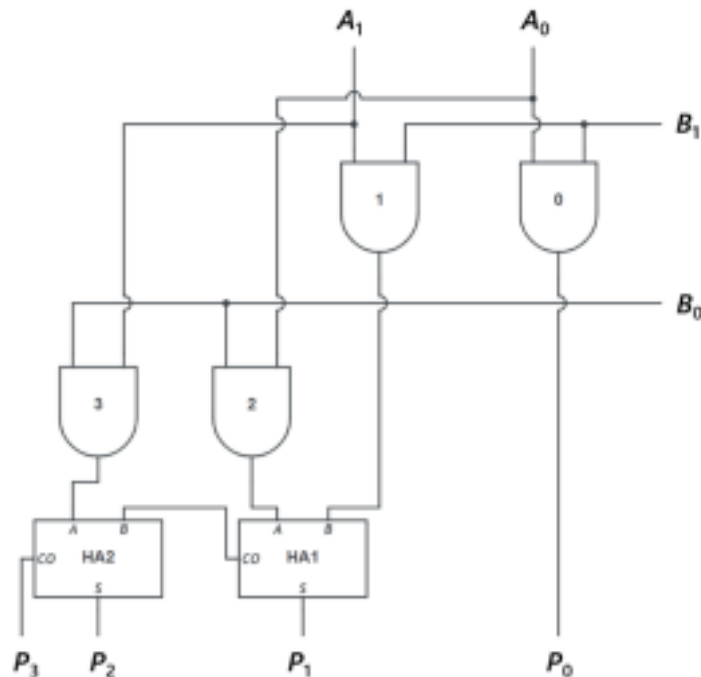

Figure 1 Logic diagram of a 2-bit multiplier circuit using half adders
The logic circuit representing the above operation is shown in Figure 1.
Step 1: Write a Verilog module to represent the logic circuit shown in Figure 1. Reuse the half adder module created in Experiment 01.